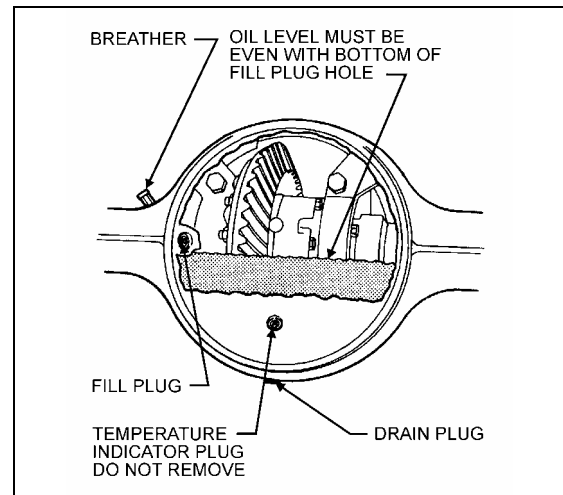

FIGURE 2: DIFFERENTIAL AXLE HOUSING BOWL 11007
Use Multigrade gear oil MIL-L-2105-D. Use the 75W90-gear oil for northern climates and the 80W140 for southern climates. In extreme conditions, or for better performance, fill with synthetic gear oil. Check oil level and add (if necessary) every 6,250 miles (10 000 km) or twice a year, whichever comes first (Fig. 2).
3. Clean the area around the fill plug. Remove the fill plug from the differential axle housing bowl (Fig. 2).